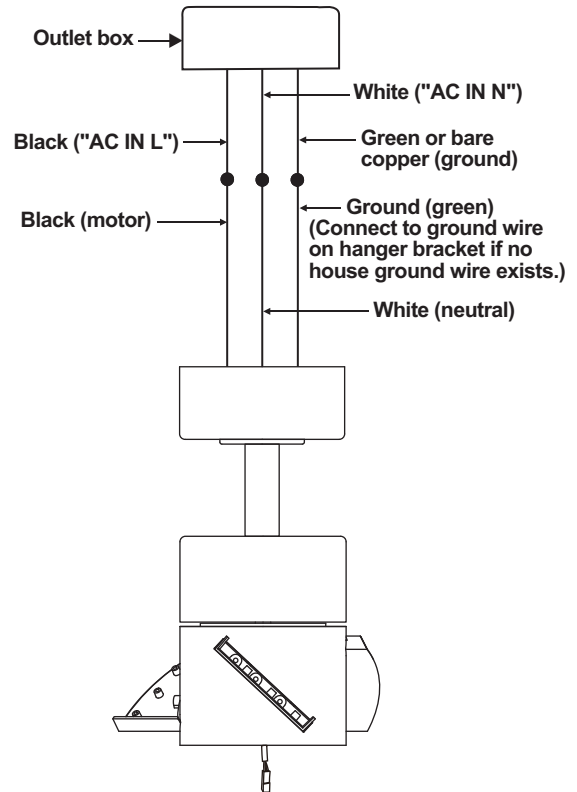

Figure 10
2. Connect the neutral fan (white) wire to the white neutral household wire. (Fig. 10)